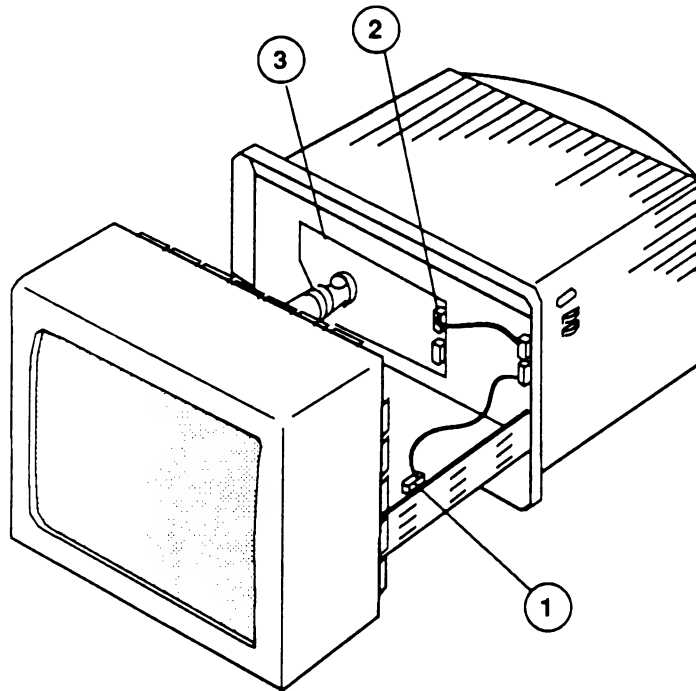

FIGURE 2
6. Gently pull the rear cover out about eight inches until connector S3 on the main logic board is easily accessible (Figure 2, #1). Unplug connector S3 at the main logic board.
7. Carefully pull the rear cover out another six inches until the CRT video board is easily accessible (Figure 2, #2). Unplug connector VC (Figure 2, #3) at the CRT video board.
1. Guide the AC power cord through the opening in the rear cover. Slide the cover onto the monitor, leaving the CRT video board (Figure 2, #2) accessible, as shown in Figure 2.
2. Install the brightness and contrast controls cable into connector VC on the CRT video board (Figure 2, #3).
3. Slide the rear cover on the monitor another six inches and install the ON/OFF switch cable into connector S3 (Figure 2, #1); then slide the cover on the rest of the way.